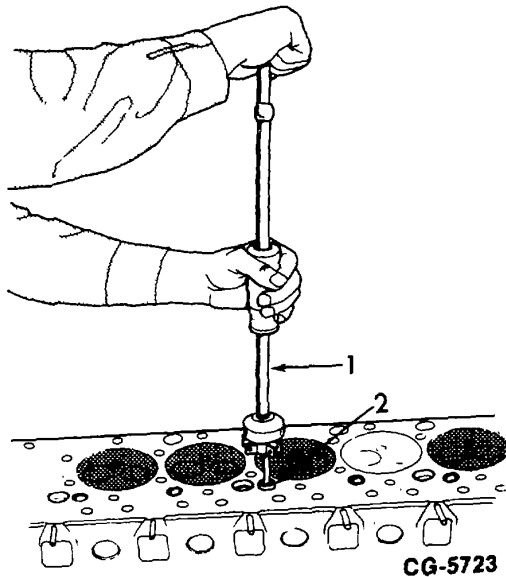

Figure 24. - Coolant Director Removal
- c. Remove loose or restricted coolant directors. Use a slide hammer (1, Fig. 24) with a small enough jaw to hook under coolant director (2) "opening" as shown in Fig. 24.